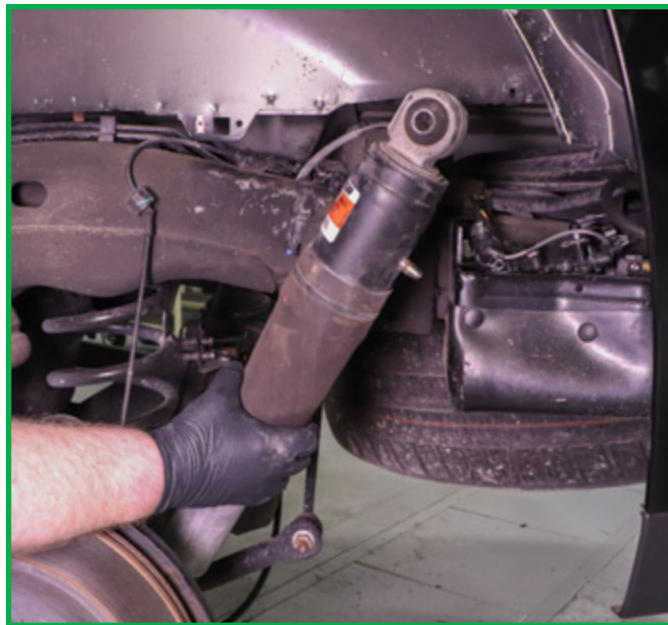

FIGURE 7
7. Remove the shock from the vehicle. (Figure 7)